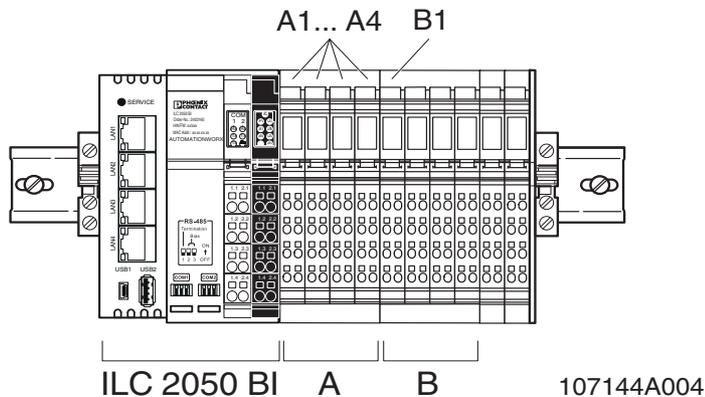

Figure 2-12 Connectors to be removed when Inline terminals are attached
The Inline controller (ILC 2050 BI-L only) has one LON interface in accordance with the CEA-709 standard for connecting to LON TP/FT-10 networks directly (Figure 2-12).
- If Inline terminals are mounted on the Inline controller (see Figure 2-12):
- Remove the directly adjacent Inline terminal (A).